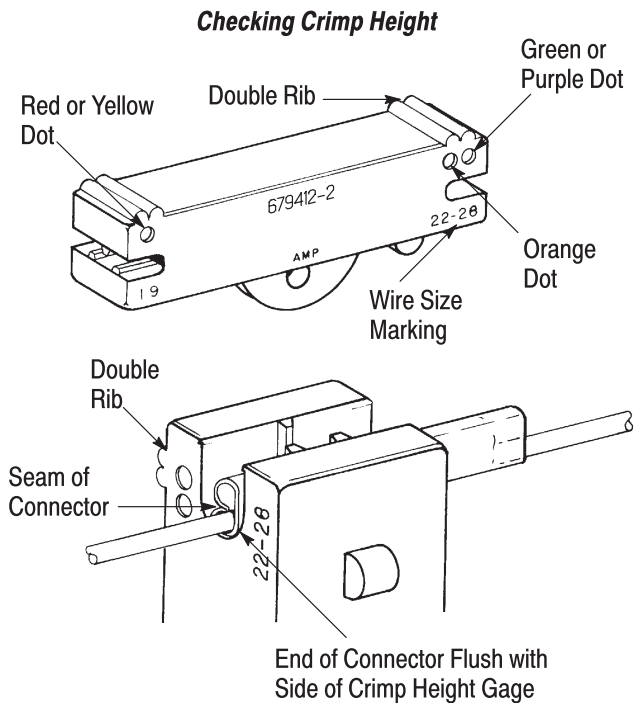

Figure 5
4.1. Crimp Height (See Figure 5)